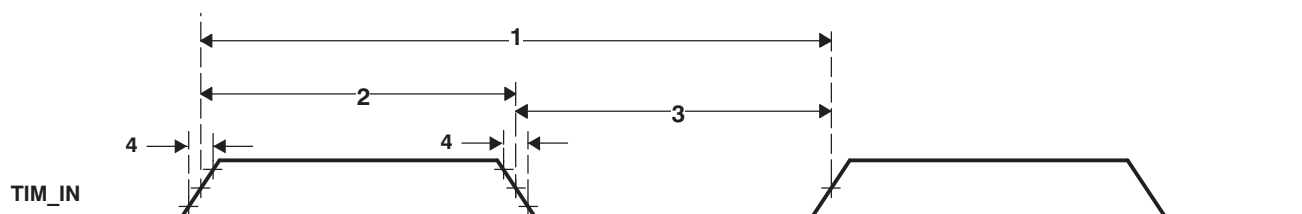

Figure 6-54. Timer Input Timing
Table 6-84. Timing Requirements for Timer Input^{(1) (2)} (see Figure 6-54)